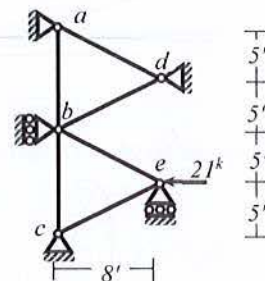

Fig.3
- Identify zero-force members of the truss loaded as shown in Fig.3.